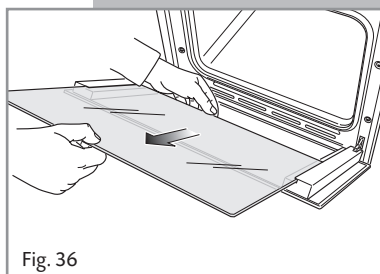

Fig. 36
- Gently pull out the inner pane of glass (Fig. 36).